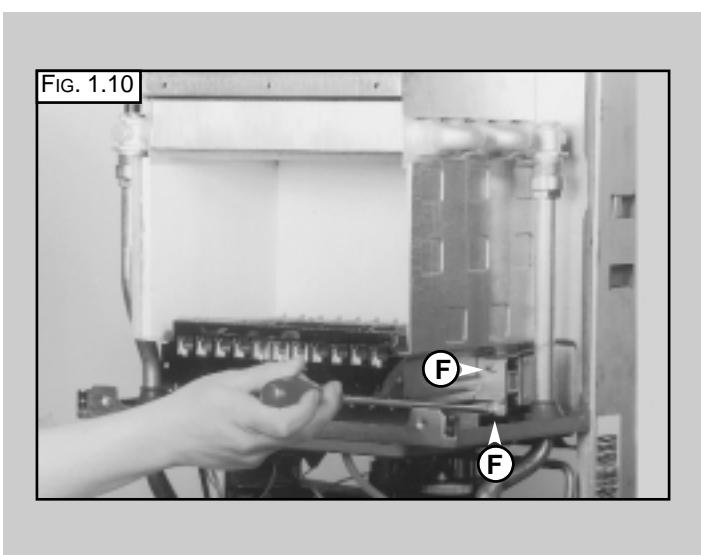

FIG. 1.10
1. Remove the screws "F" from the burner (FIG. 1.10);